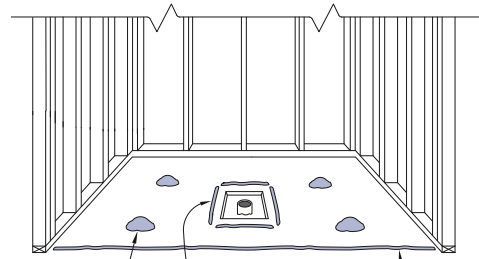

Figure 9
- Apply 100% silicone sealant caulking pads, 3/4" high by 3" wide, equal distance side to side. Also apply a bead of silicone along the marker line drawn at the front of the alcove (refer to step 9) as well as along the outside of the 10" x 10" box out for the drain. See Figure 9.